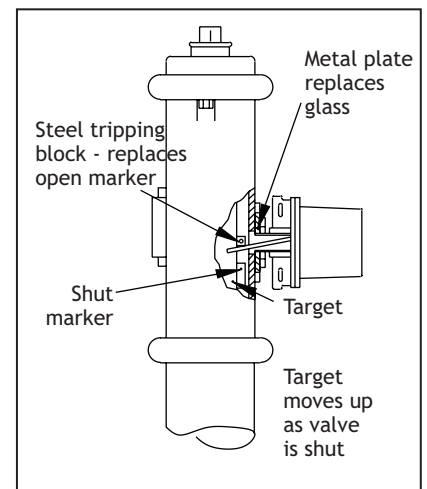

Figure 4: Window Installation
18. Alternative installation for other post indicator valve housing shown in Fig. 4 and 5.
- Option A: Refer to Figure 4. Subject to the approval of the “authority having jurisdiction” the alternate method of installation shown in Fig. 4 may be used. In this method, one of the glass windows of the housing is replaced with a 1/4” thick metal plate that is cut to fit in place of the glass and drilled and tapped to receive the 1/2” NPT pipe nipple. In some cases it may be necessary to attach an angle bracket to the target assembly to engage the PCVS trip rod.